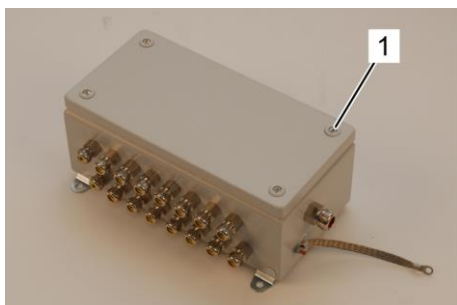

Fig.66: Screws on the Terminal box
3. Loosen the screws on the Terminal box (Fig.66/1) and open it.